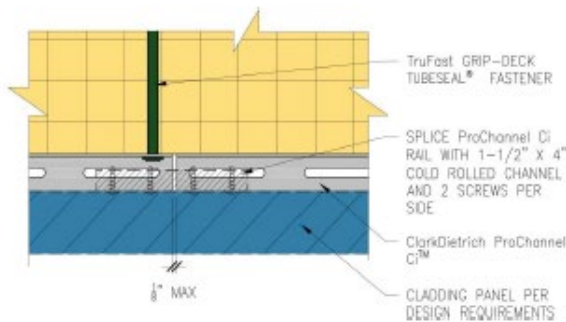

Figure 3
Step 4 Abutting ProChannel Ci channels shall have a min 1/16" to max 1/8" gap to accommodate for expansion and stepped to avoid concurrent joints on the vertical steel-stud. (see Fig. 3 for details).
- When base wall's stud flange is less than 2", splice abutting channel joints with 1½"x 4" Cold Rolled Channel (CRC) and 2 (two) pan head screws per side to attach the Cold Rolled Channel (CRC) (see Fig. 3)